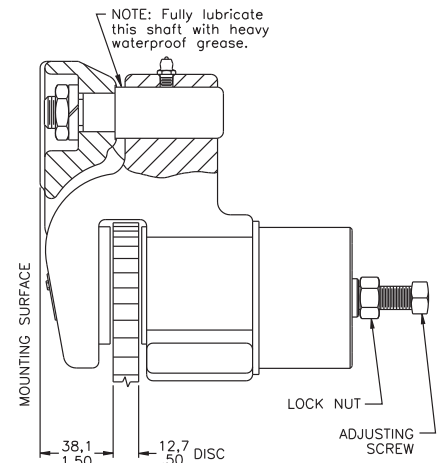

FIGURE 2
1. The mounting surface to disc face dimension should be closely held as this provides for the required caliper movement. Use shims as needed to obtain the proper distance, Figure 2.
4. Mount brake and bracket assembly on disc and bolt securely to machine using SAE Grade 8 or better mounting bolts with lock washers, Figure 2.